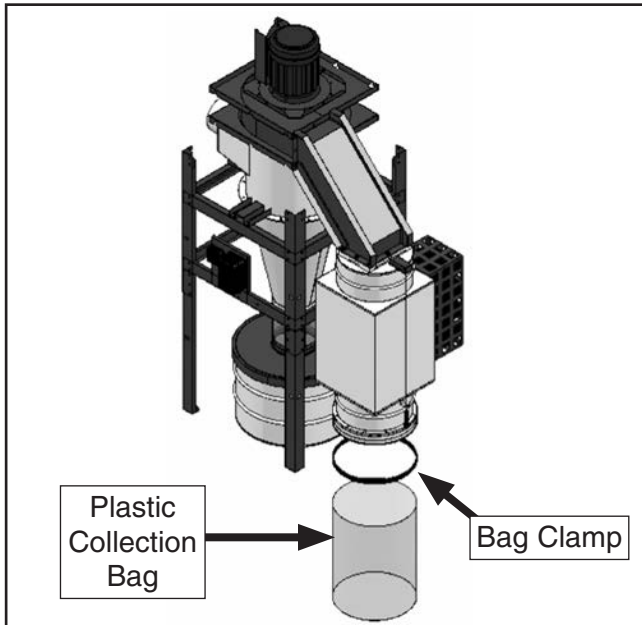

Figure 18. Installing collection bag under HEPA filter.
- Slip plastic collection bag around opening under canister filter, and secure with metal bag clamp (see **Figure 18**).